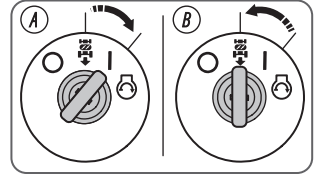

Fig. 2
- With the ignition key in the on position (A), push down on the rearward pedal (Fig. 2). The engine must stop when you push down on the rearward pedal.
- Turn the ignition switch to the ROS on position (B), (Fig. 2).